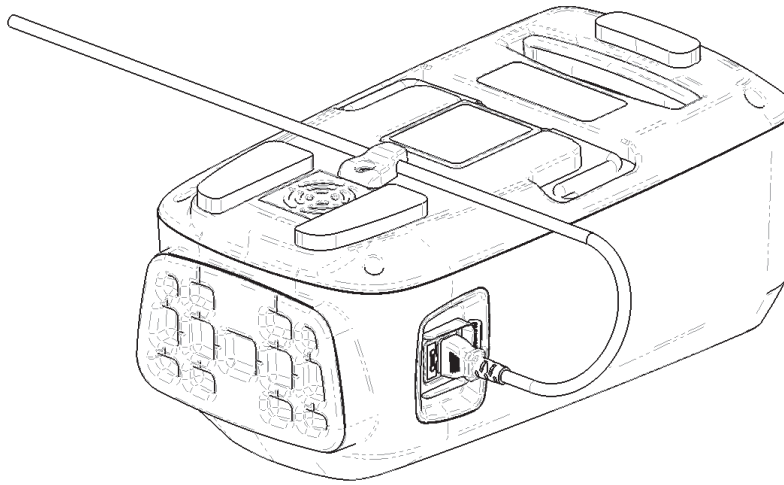

Figure 22 – Power cord secure
11. Secure the power cord (Figure 22).